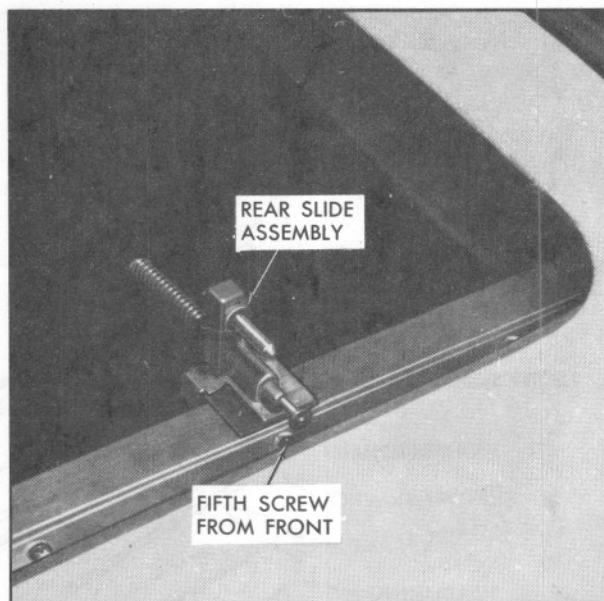

Fig. 15-36 Rear Slide In Centered Position
1. Position left rear slide in guide track and move slide and cable assembly back until slide is centered with the fifth side guide rail screw from the front, Fig. 15-36.